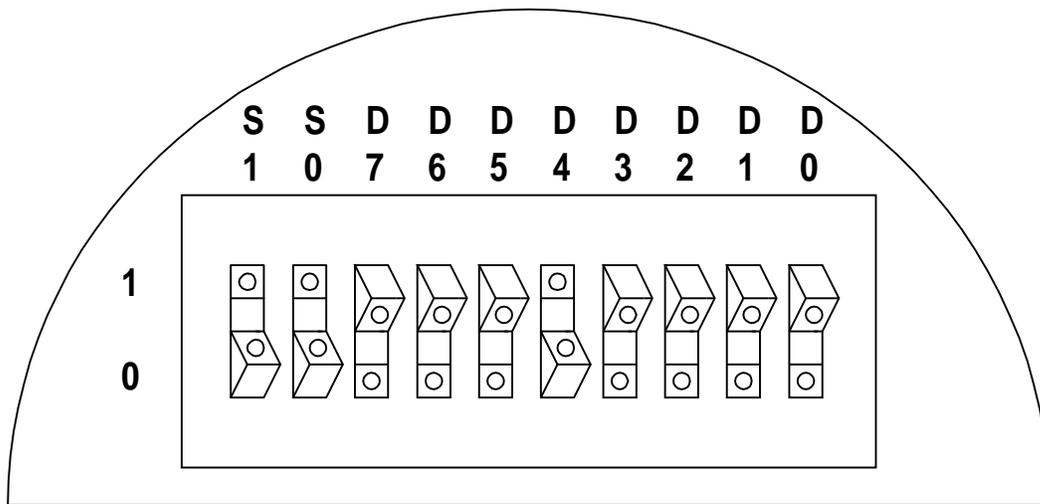

Figure 3. Dip Switches Set to Value 1100010000 to Reset the XRD9829
13. A window will pop up as shown below. The upper window shows the Plot of Captured Data and the lower window shows the Histogram of data. Figure 3 shows the pop-up window when ScanIt is first